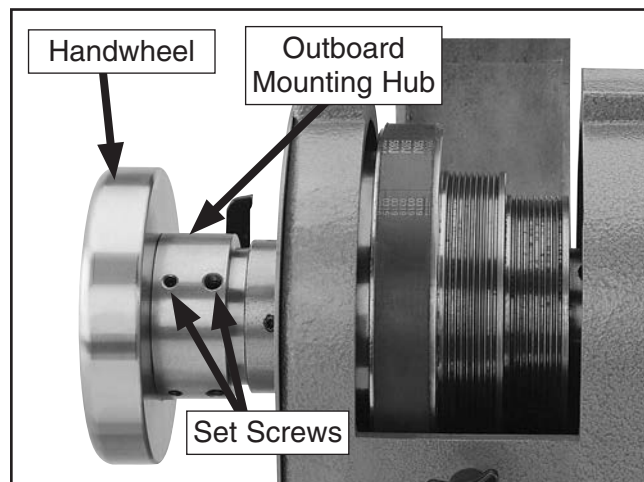

Figure 48. Outboard mounting hub.
10. Loosen the set screws closest to the handwheel on the outboard mounting hub (see **Figure 48**), unthread the handwheel, loosen the inner set of set screws, then remove the mounting hub.